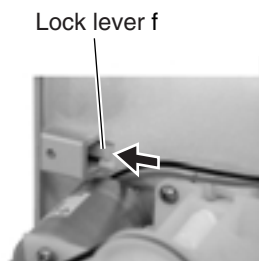

Fig.30-1
2. Push the part **f** of the lock lever in the direction of the arrow as shown in Fig.30-1 / 30-2 and disengage the LCD section from the front panel assembly.